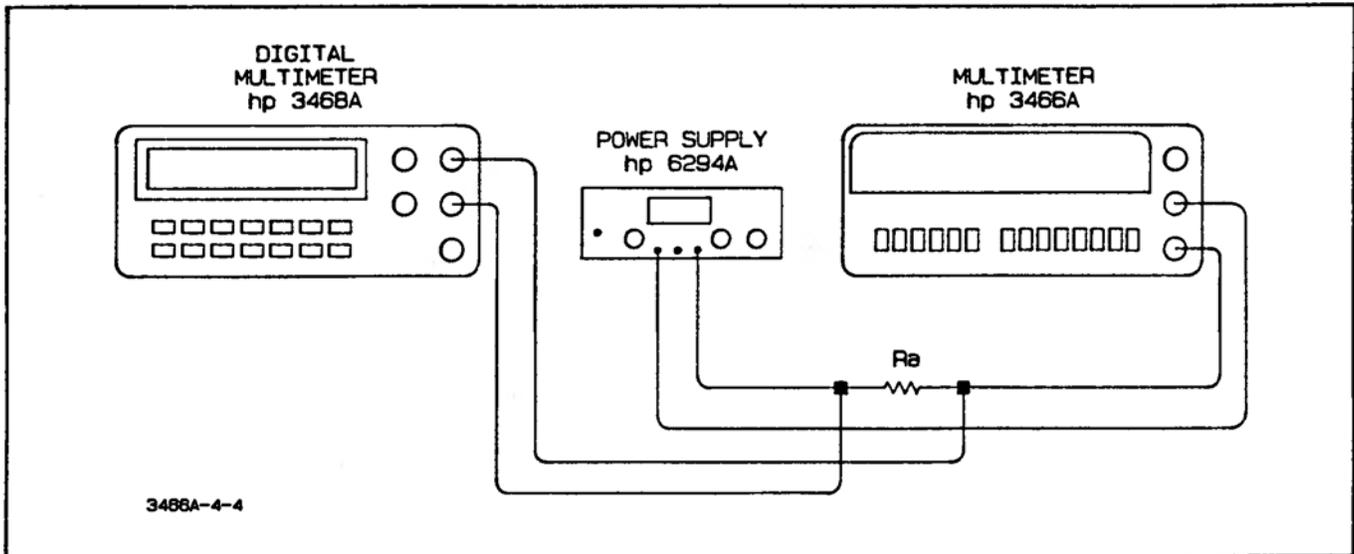

Figure 4-4. DC Ammeter Accuracy Test
- a. Connect the 3466A to the power supply and Digital Multimeter as shown in Figure 4-4.
- b. Connect the 100k ohm $\pm 0.01\%$ resistor in the Ra position as shown in Figure 4-4.